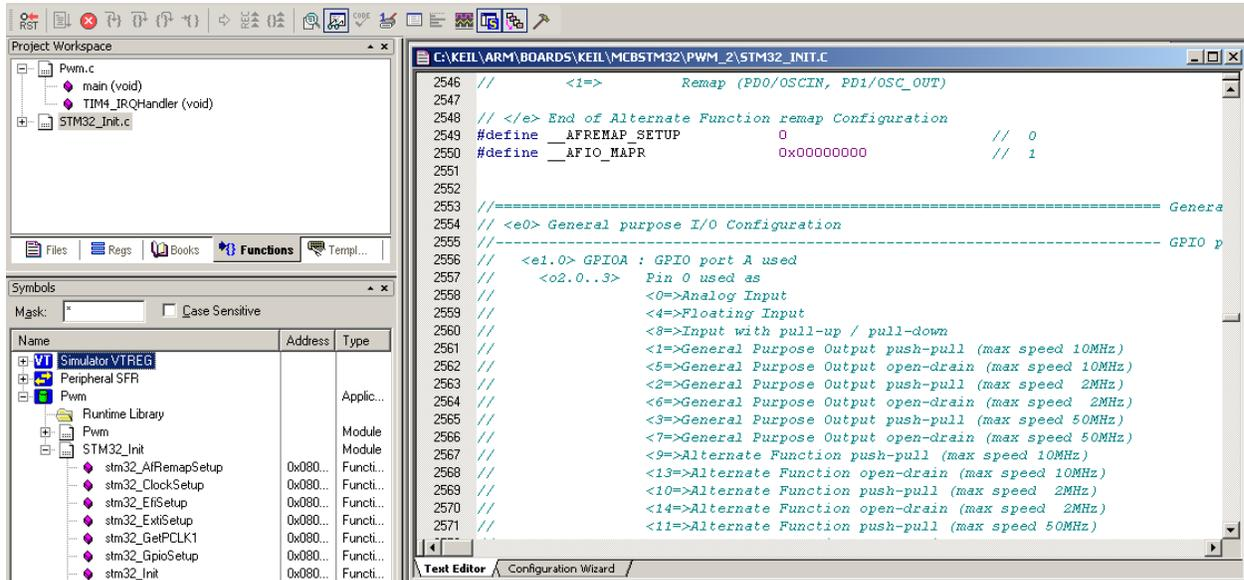
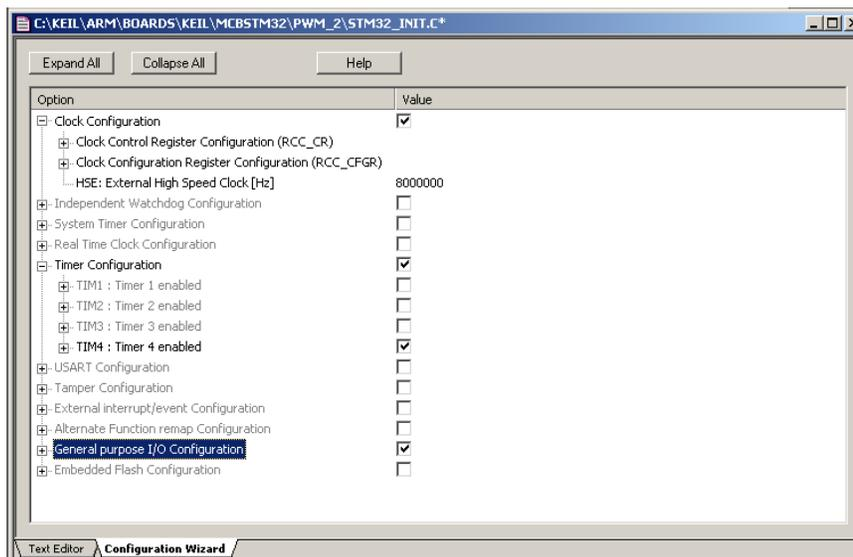

Figure 13 Text Editor tab for a source file
Figure 14 Configuration Wizard tab for the same source file
- 3) You can select this from the Project Workspace. Select either the Functions or Files tab at the bottom of the Project Workspace as shown in Figure 13, then double click on the filename to open it up.
- 5) In the STM32_Init.c window shown in Figure 13, note the commented text (//) with tags surrounded with < >. This is an open scripting language that you can create yourself for any of your own source files.
- 6) Click on the Configuration Wizard tab at the bottom of the window STM32_INIT.c in Figure 13. Figure 14 opens up with check boxes. This is the same text but arranged differently. Changing the text in the Text Editor tab or the settings in the Configuration Wizard tab changes the settings in the other tab and vice versa.